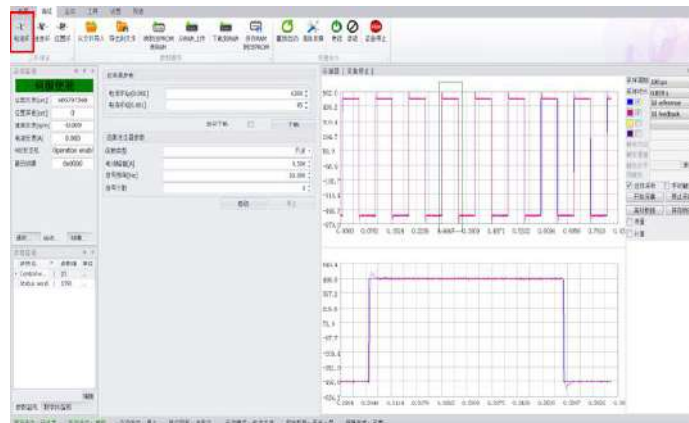

Figure 4-12 Current loop debugging interface
1. Click **"Adjust"** in the main menu, select **"Current Loop"**. The debugging interface of the current loop shows as in Figure 4-12: